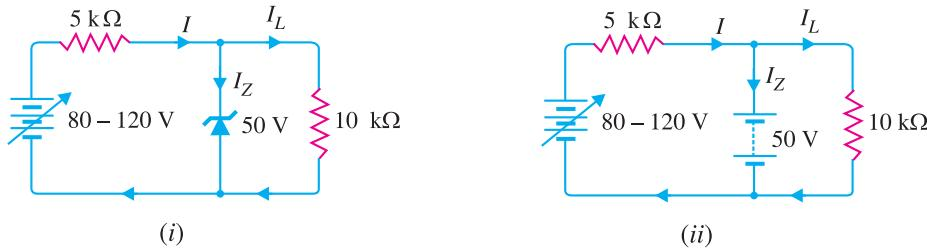

Fig. 6.62
**Example 6.26.** For the circuit shown in Fig. 6.62 (i), find the maximum and minimum values of zener diode current.
**Solution.** The first step is to determine the state of the zener diode. It is easy to see that for the given range of voltages (80 – 120 V), the voltage across the zener is greater than  $V_Z (= 50 \text{ V})$ . Hence the zener diode will be in the “on” state for this range of applied voltages. Consequently, it can be replaced by a battery of 50 V as shown in Fig. 6.62 (ii).